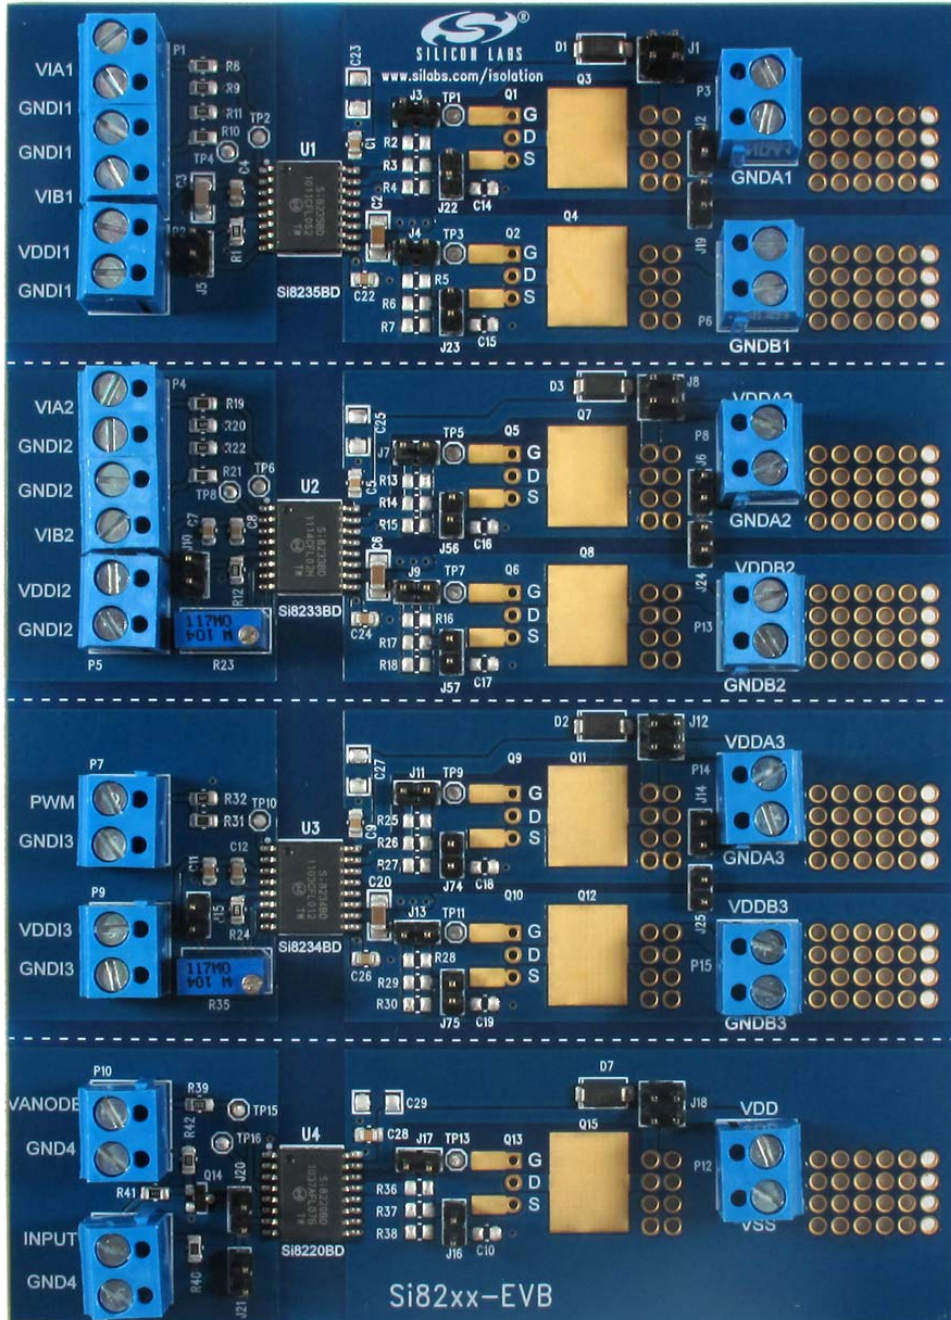

Figure 1. Si82xx Evaluation Board Overview
- Si82xx-based evaluation board (Si82xx-EVB) shown in Figure 1.